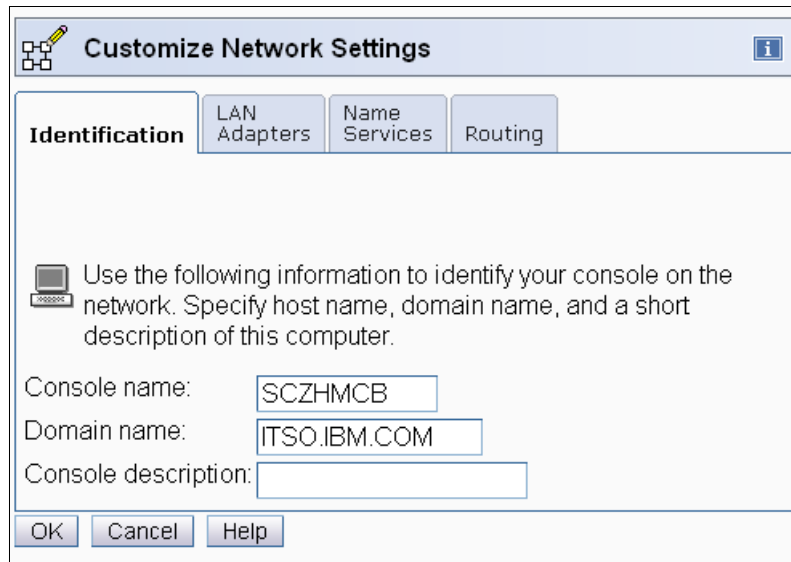

Figure 3-27 HMC and SE: Customize Network Setting
5. Select **Customize Network Setting** from HMC management to open the Customize Network Settings window (Figure 3-27).